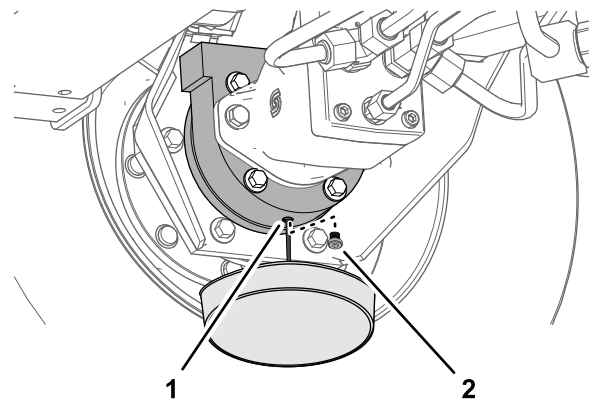

Figure 63
6. Place a drain pan under the brake housing, remove the drain plug, and allow the oil to fully drain (Figure 63).